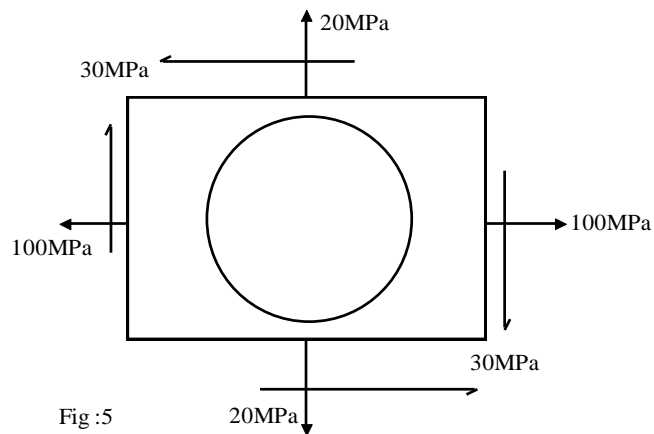

Fig :5
11. a) A circle of 400 mm diameter is scribed on a mild steel plate before it is subjected to stresses as shown in Fig. 5. Calculate the lengths of major and minor axis of the ellipse and also find their direction $\mu = 0.3$; $E = 205 \text{ kN/mm}^2$. 8